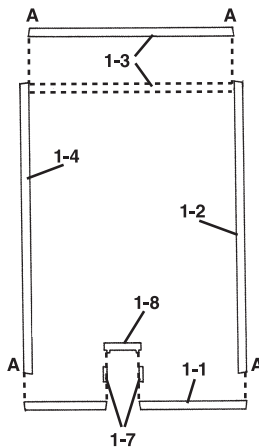

Fig. 2
2. Glue Side Panels to Entry Door (Fig. 2 and 4).